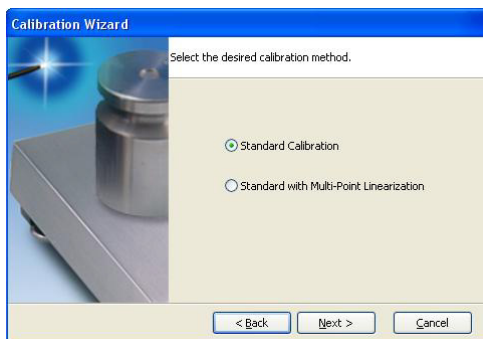

Figure 5-3. Revolution Calibration Wizard Display
1. On the first Calibration Wizard display, select whether performing a standard (zero and span) calibration or a multi-point linear calibration (Figure 5-3). Click the **Next** button to continue.